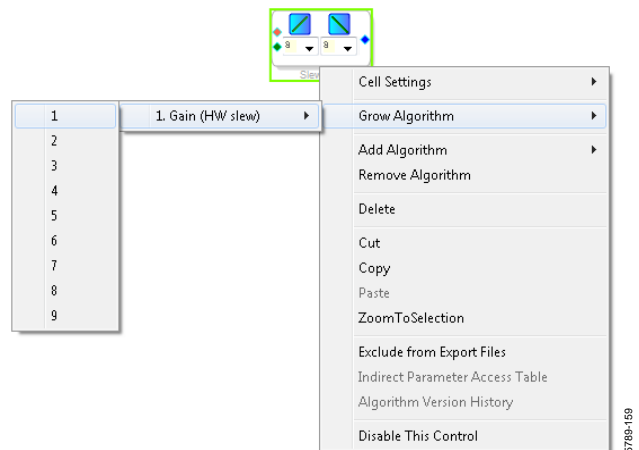

Figure 57. Growing the Single Slew Ext Vol Block to Two Channels
- b. By default, the **Single Slew Ext Vol** block has one audio signal input. To add another channel, right click in the empty white space of the **Single Slew Ext Vol** block, and select **1 > 1. Gain (HW slew) > Grow Algorithm** from the dropdown menu that appears (see Figure 57).